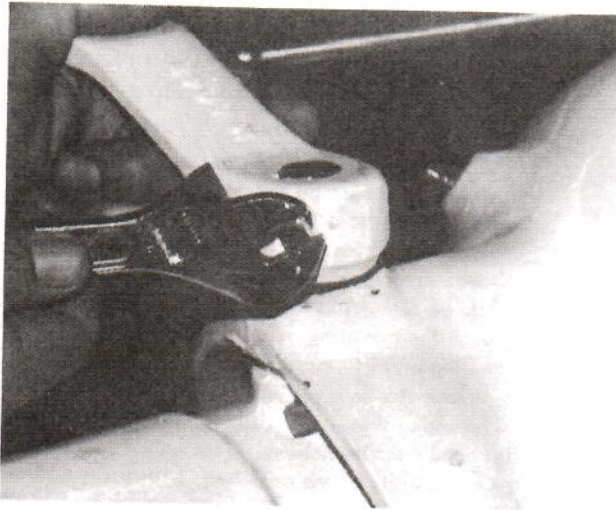

Figure 1
- 1 With the Woodruff key in place in the tiller shaft, install the tiller arm on the shaft using the square head set screw (Figure 1).